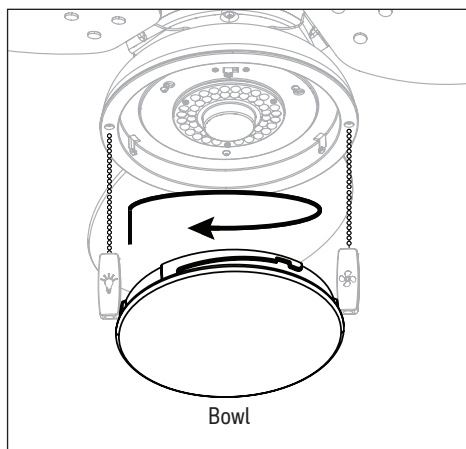

Figure 5.10
10. Attach the bowl to the light kit by twisting the bowl firmly in a clockwise direction until it is secure. **CAUTION:** Avoid cross-threading the bowl during installation. Improper installation could cause the bowl to be difficult to remove or fall, which could cause serious injury (Figure 5.10).